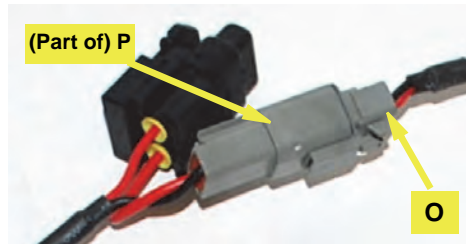

Figure 6c: Power cable connected to junction box cable
- d. Connect the gray connector of the power cable **O** (routed into the cab at step 6a) to the gray cable from the junction box **P** (Figure 6c).